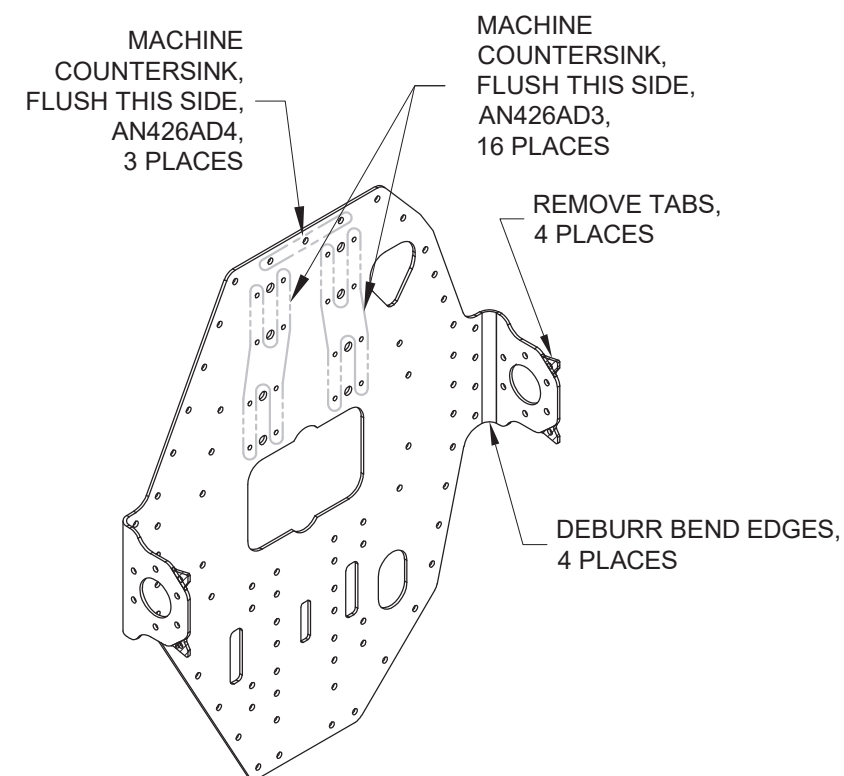

FIGURE 1:
Step 1: Remove the tabs from the F-1211B Bulkhead Doubler and deburr the bends called out in Figure 1.
Step 2: Machine countersink the holes in the F-1211B Bulkhead Doubler called out in Figure 1.